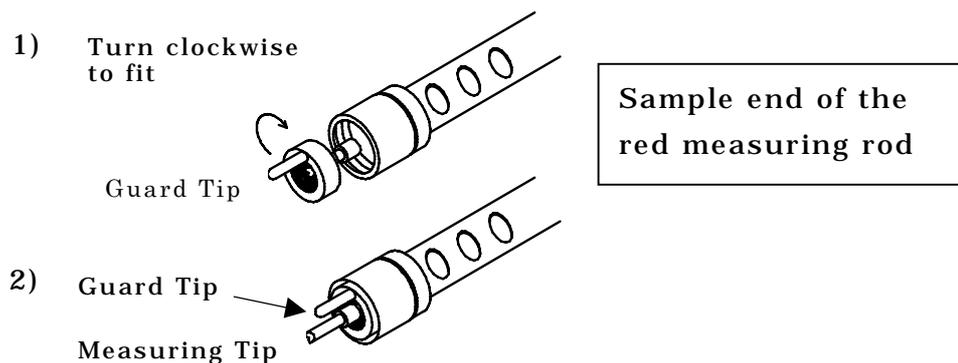
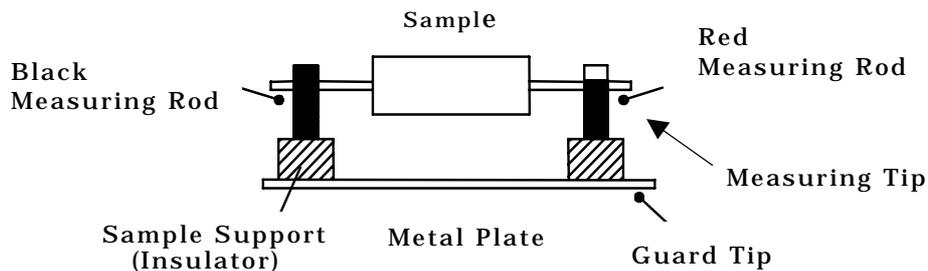

Fig. 9.1.1
Fig. 9.1.2
(1) Before connecting the measuring plug of the red measuring rod to the Rx “-“ terminals, mount the guard tip on the measuring plug as shown in Fig. 9.1.1.
- (1) Before connecting the measuring rods to the Rx -/+ measuring terminals, mount the guard tip onto the red measuring rod as shown in Fig. 9.1.1 on the previous page.
- (2) Connect the measuring rods to the Rx -/+ measuring terminals.
- (3) Connect the sample as shown in Fig. 9.1.2 below.